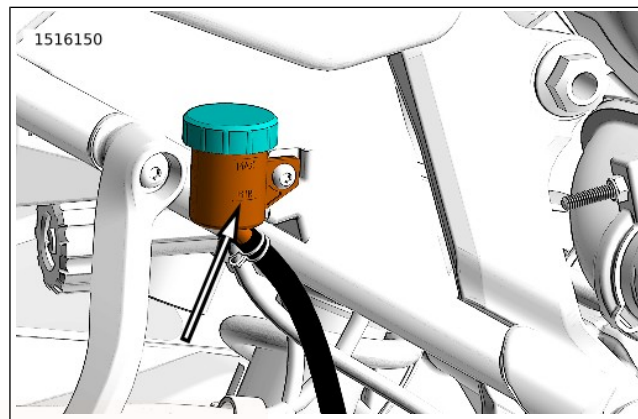

Figure 59. Rear Master Cylinder Reservoir MIN Level
3. **Rear:** See Figure 59 Check level on side of rear brake reservoir. Level must be above minimum mark on side of reservoir.